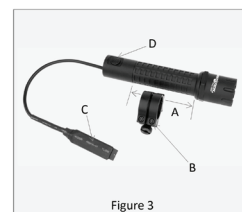
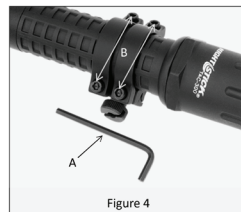

Figure 3
Figure 4
6. Test the operation of the Remote Pressure Switch (Figure 3-C) and the side switch (Figure 3-D). The Remote Pressure Switch provides momentary On/Off operation of the light. The side switch provides momentary On/Off operation by pressing slightly on the button, or constant-on by pressing until the button clicks.
7. Determine where the Quad Lock Mount (Figure 3-B) is to be located on the light, anywhere along the handle. (Figure 3-A). The mount must remain clear of the Remote Pressure Switch, otherwise accessing the batteries will require disassembly of the Quad Lock Mount.
8. Once the location of the Quad Lock Mount has been determined for the light, remove all 4 of the cap head screws (Figure 4-B) using the supplied Allen wrench (Figure 4-A).
9. While holding the lower half of the mount (Figure 3-B) in place, press each of the top rails in to alignment with the lower half and start all 4 of the cap head screws (Figure 4-B). IMPORTANT: Partially install all 4 cap head screws before fully tightening.
10. Tighten the 4 cap head screws (Figure 4-B) by alternating between each and tightening a small amount at a time. When all 4 are tightened into place (DO NOT over-tighten), the gap between the lower half of the mount and the two top rails should be approximately 1/16" and should be equal on both sides.